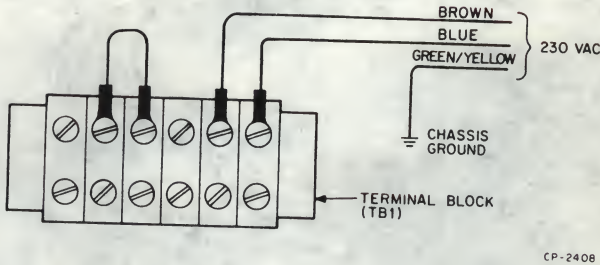

Figure 14 H780-D, -J, and -L (230 Vac) AC Terminal Block Wiring Configuration
**Connecting AC Line Cord** – The H780 power supplies are equipped with a terminal block (Figure 12 ) at the rear. Jumpers on this terminal block configure the supply for 115 Vac or 230 Vac operation while two of the terminal block screws provide a means of connecting ac input power to the H780. A suitable length of No. 16 AWG, 3-conductor, stranded power cord is to be connected to the terminal block as shown in Figure 12 (for H780-C, -H, and -K supplies), or Figure 14 (for H780-D, -J, and -L supplies). The jumpers shown in Figures 13 and 14 are factory-installed. However, the jumper configuration can be altered by the user to change the ac input from 115 V to 230 V for the H780-C, -H, and -K, or from 230 V to 115 V for the H780-D, -J, and -L. European users are advised not to operate an H780-C, -H, or -K power supply on a 230 Vac line as these supplies are not